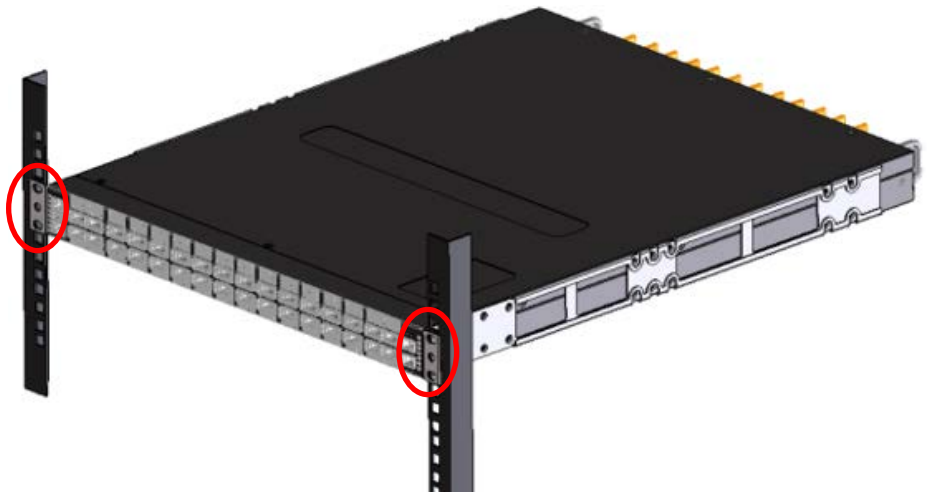

Figure 22. Installing the Switch to the Front Rack Poles
5. Install the switch unit to the front rack poles by tightening the thumb screws. See Figure 22 on page 53.